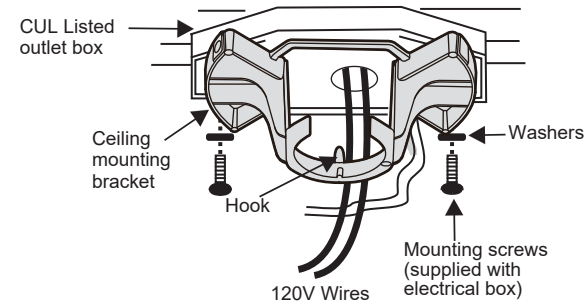

Fig. 5
Step 1. Pass the 120 volt supply wires from the ceiling outlet box through the center of the ceiling mounting bracket. (**Fig. 5**)
Step 2. Attach the ceiling mounting bracket to the outlet box using the screws and washers included with the outlet box. (**Fig. 5**)